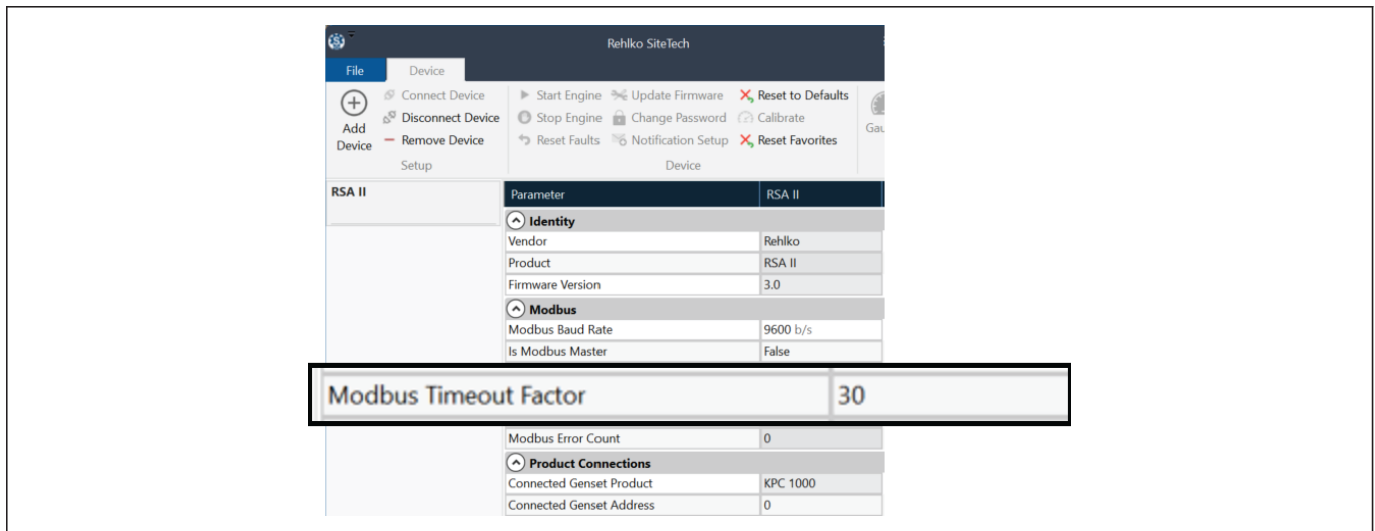

Figure 2: RSA Modbus Timeout Factor
11. **If using Remote Serial Annunciator (RSA)**, adjust Modbus Timeout Factor in Modbus section to 30 using SiteTech™. See Figure 2.